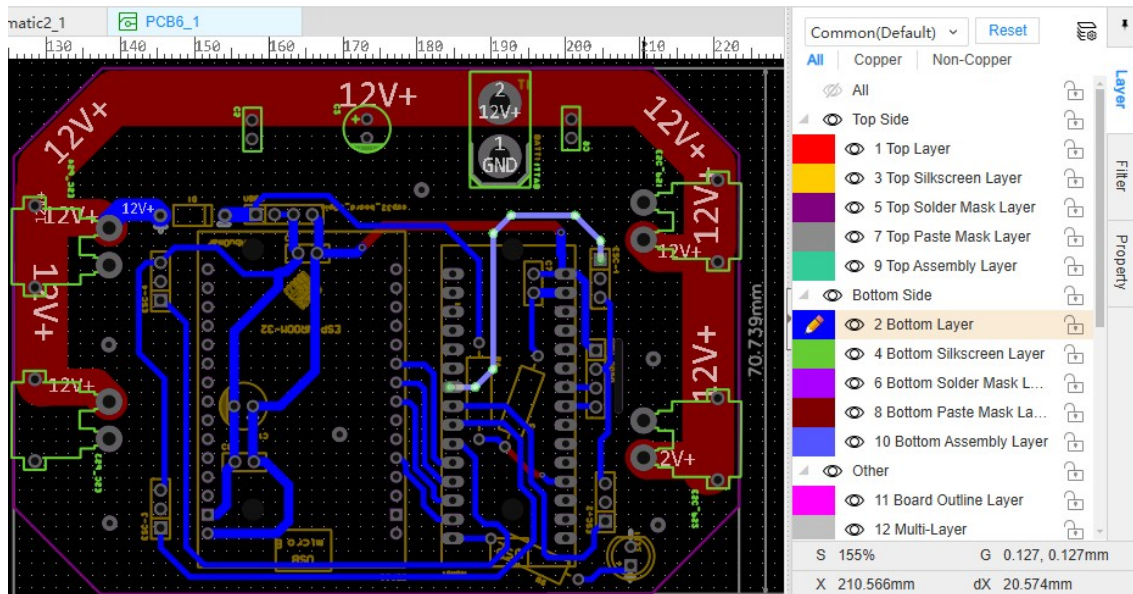

Fig.21. Layers of the PCB.
- **It is better not to use auto-routing** and do manual routing as shown in Fig. 21.